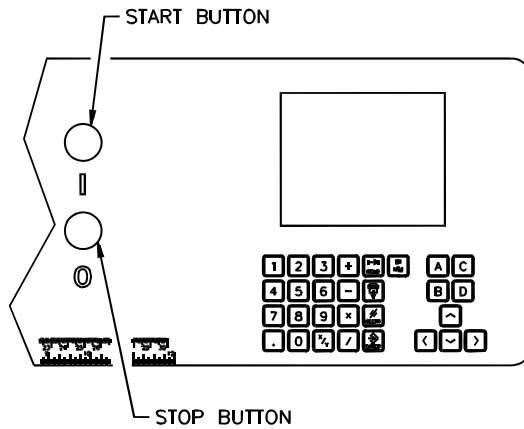

Figure 2-22. CMT 330 Console
12. Press the green start button key on the console, shown in Figure 2-22. The hydraulic motor should turn on. The machine was shipped with all three knives in the down position. If power is hooked up correctly, the knives will automatically raise to the up position. If power is incorrectly connected, the knives will remain in the down position. Continue at step 13 if the knives do not